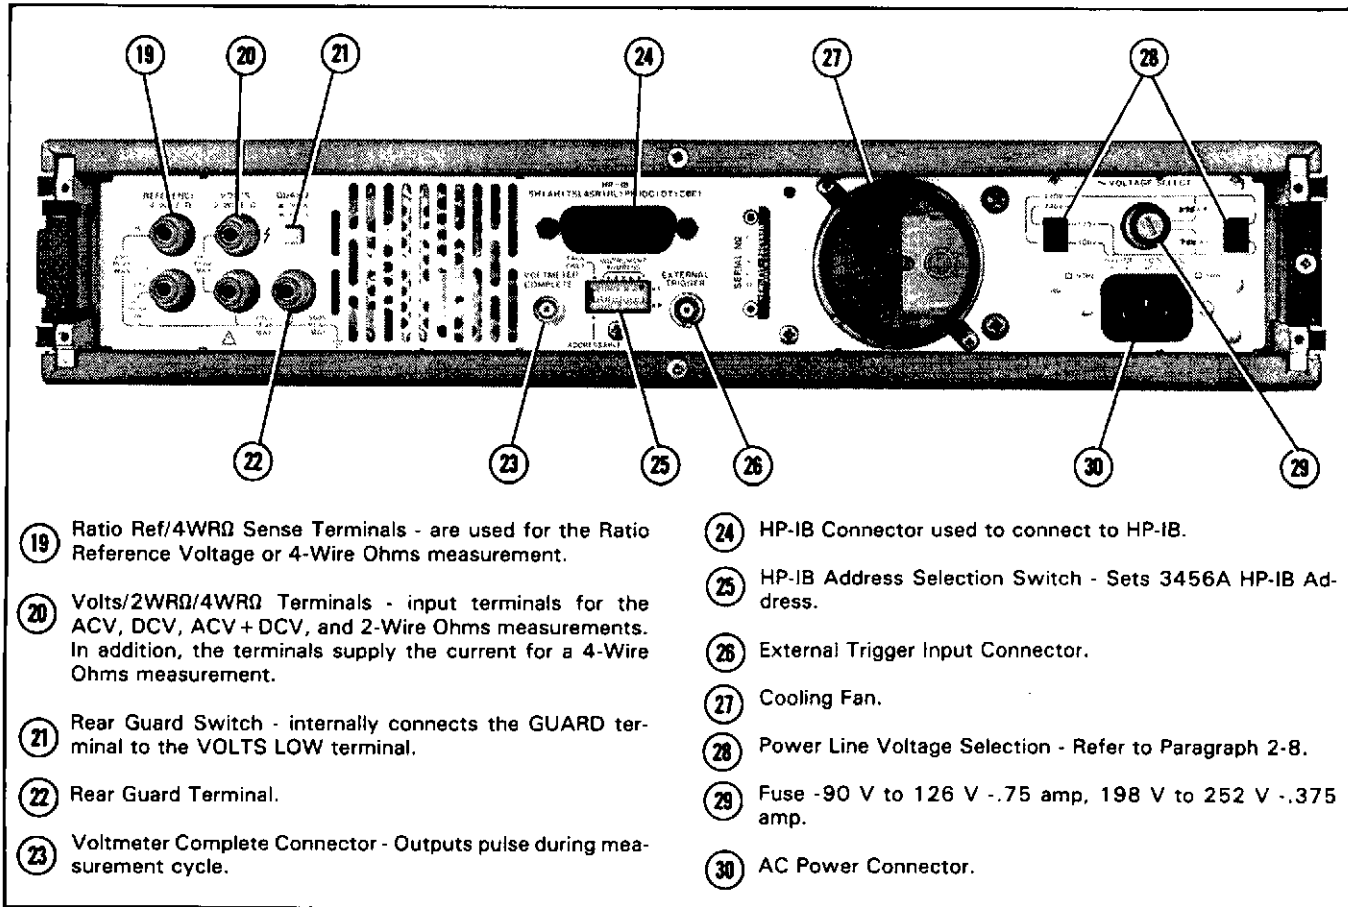

Figure 7-6. Change #10 in Figure 3-1
a. Page 3-3, Figure 3-1 (Front and Rear Panel Features (Cont'd)). Replace Figure 3-1 with Figure 7-6.
b. Page 8-93/8-94, Figure 8-75 (Schematic 14, Power Supply Schematic). Change bridge rectifier A3CR5 to diode rectifiers A3CR5 through A3CR8, as shown in Figure 7-6. Add fan B1, and change fuse F1 to 750MA and 375MA, as shown in Figure 7-7.